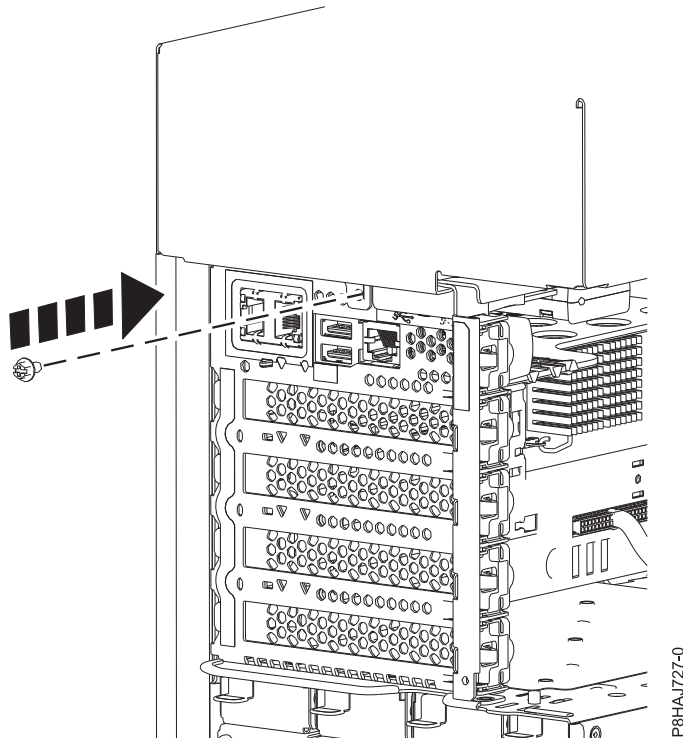

Figure 20. Installing the 8286-41A side cover screw
5. Install the side cover rear screw with a Phillips screwdriver as shown in Figure 20 on page 38.